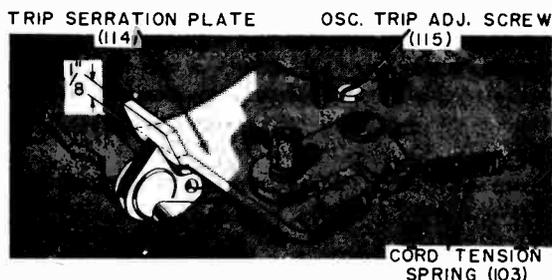

Figure 6. Trip Serration Plate, Showing Oscillating Trip Adjustment.
This record changer employs two different types of trip mechanisms to trip it into change cycle. For 78 RPM and 33 RPM operation, an "oscillating" type trip is used. See figure 6. This type of trip depends upon the in and out movement of the pickup arm caused by the eccentric groove in the record.
This record changer uses the oscillating type trip for 78 RPM and 33 RPM operation. See figure 6. In order for the changer to trip properly, the oscillating trip adjusting screw (115) must be properly adjusted. Also, this adjustment affects the position trip adjustment and consequently should be made carefully before attempting the position trip adjustment.
5. Adjust trip adjusting screw (115) until the point of the pawl (127B) is horizontally even or level with the smooth side of the trip serrations (114). See figure 6. The point of the pawl should be $\frac{1}{8}$ of an inch from the bottom edge of the lip on the trip serrations.